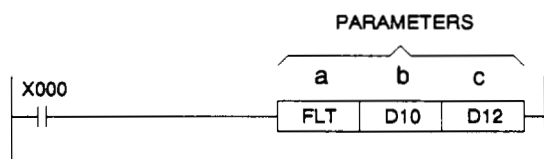

Figure 1: The Float instruction in ladder format.
Shown below in Figure 1 is the typical appearance of a Float instruction in a ladder program. While Figure 2 shows the same piece of ladder logic written in instruction format.
Following Figure 1, when input X000 is turned on, the effect of the Float instruction is to read the contents of D10, convert this value into a float value and put it into the Data Register pair D13 and D12. The following section explains each parameter in greater detail:
- I) FLT: The standard form of the instruction, taking 5 steps of program. In the example shown in Figure 1, while X000 is turned on, the FLT instruction will operate.